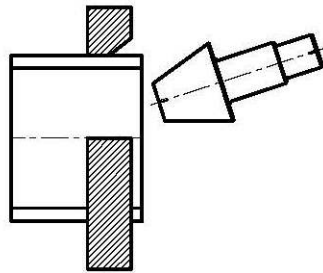

Fig. 1
5. With the directional control valve in the forward position use the manual pump to advance the flaring head until the flaring pin comes into contact with the pipe. (Fig. 1)